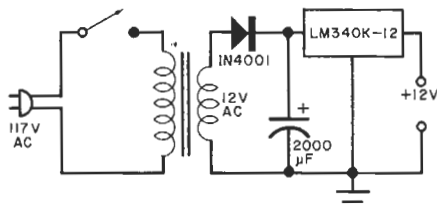

Fig. 2. This simple supply can be built to power the project.
**Construction.** The circuit can be assembled on a small printed-circuit board, the etching-and-drilling and components-placement guides for which are shown in Fig. 3. Once the pc-board assembly is wired, it and a 12-volt, 65-mA power supply (Fig. 2) can be mounted inside an appropriate enclosure. Mount the five selector switches, RESET push-